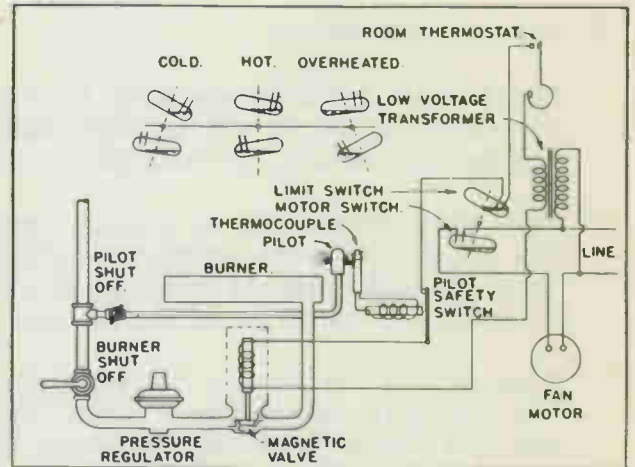

Fig. 11
- a. Gas burner - see figure 11
Fig. 11 shows a complete gas heating unit showing parts and the electrical control system. When the manual shut-off valve is open gas flows into the pressure regulator and on into the magnetic control valve, then to the burners in the furnace.
The limit switch and motor switch, Fig. 11, are of the mercury bulb type, tilted by a bonnet or duck type of thermostat, both switches tilt together at the same instant. In the cold position the low voltage circuit of the thermostat is completed through the top switch. When the thermostat calls for heat and closes this circuit, the magnetic control valve opens and gas passes on into the burner. When the furnace warms up the switch tilts to the hot position, which closes the lower mercury switch starting the fan. If the heating continues and produces a temperature higher than the upper limit for which the control is adjusted the motor circuit is kept closed through the lower switch; but the circuit to the magnetic valve is opened and shuts off the main burner.